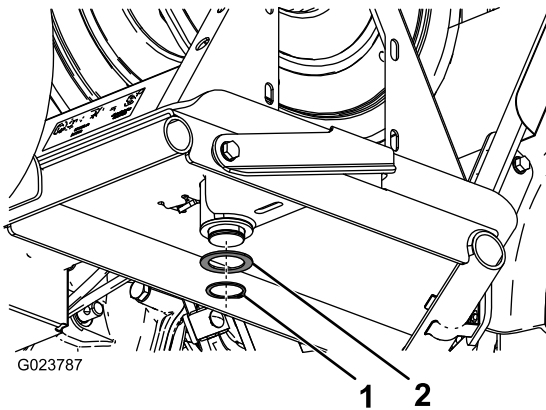

Figure 7
4. On the underside of the hose reel frame, attach the thrust washer and snap ring to the post on the swivel plate (Figure 7).